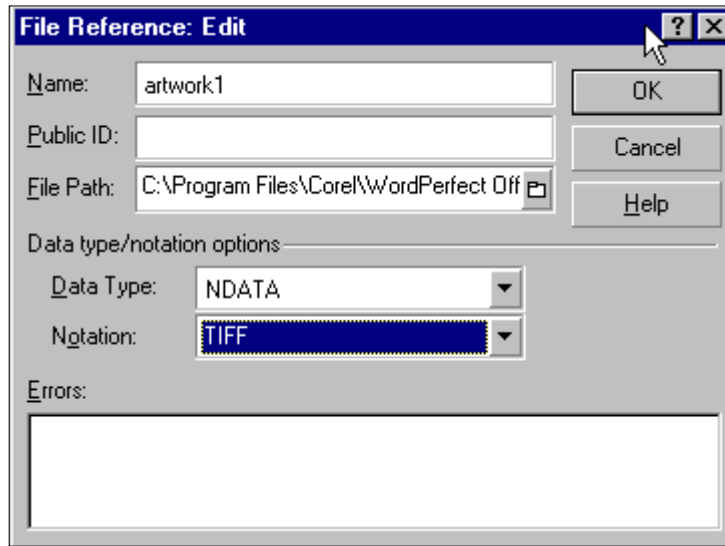

Figure 4-14 File Reference: Edit Window
- 3d. Click on the **Edit** button. The **File Reference: Edit** window opens (see Figure 4-14).